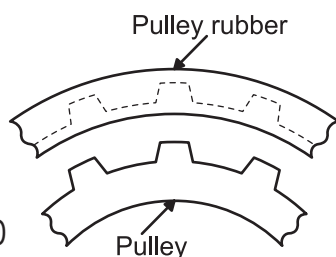

Fig.10
(4)Extend a new pulley in the circumferential direction and fit it into the highs and lows of the pulley in sequence. [Fig.10]